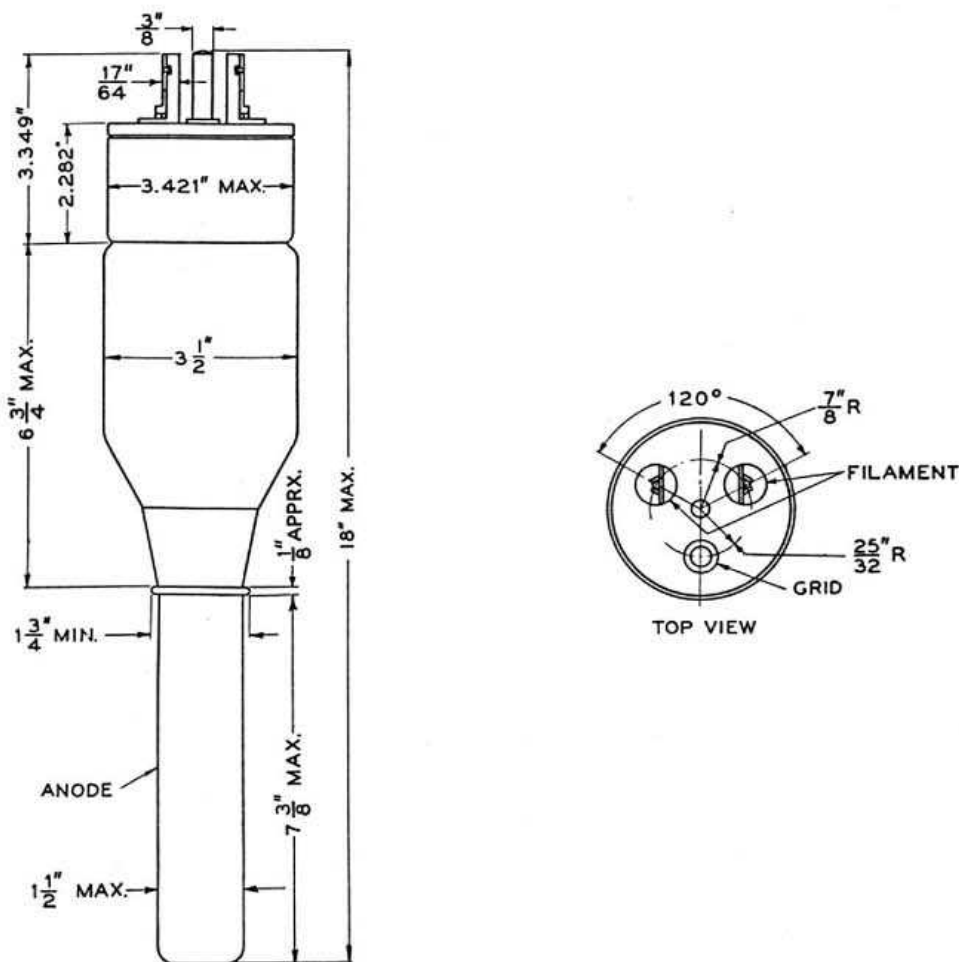

FIG. 1
**Dimensions**—Dimensions and outline diagrams are shown in Figure 1. The overall dimensions are:
**Mechanical**—Figure 1 shows the overall dimensions and basing arrangement for the tube.